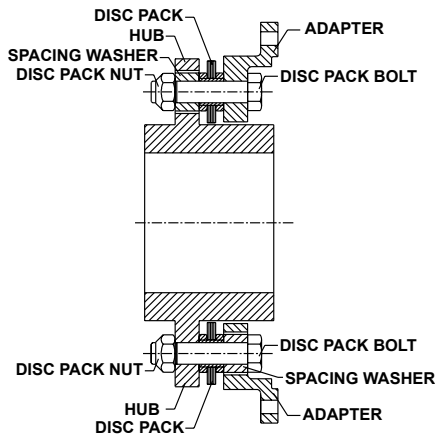

Figure 4. Bolt Adapter and Disc Pack to Hub
- 3.1 Place the disc pack and adapter in position over the hub body diameter as shown in Figure 4. The reamed holes in the adapter should be aligned with the large clearance holes in the hub as in the upper portion of Figure 4. The large clearance holes in the adapter should be aligned with the reamed holes in the hub as in the lower portion of Figure 4.
- 3.2 Insert disc pack bolts through the reamed bolt holes in the adapter, through the disc pack holes and through the clearance holes in the hub. Install a spacing washer and nut over each disc pack bolt (See Figure 4., upper half). Place spacing washers on the remaining disc pack bolts and insert them from the adapter side through the adapter clearance holes, through the disc pack holes and through the reamed bolt holes in the hub (See Figure 4., lower half).